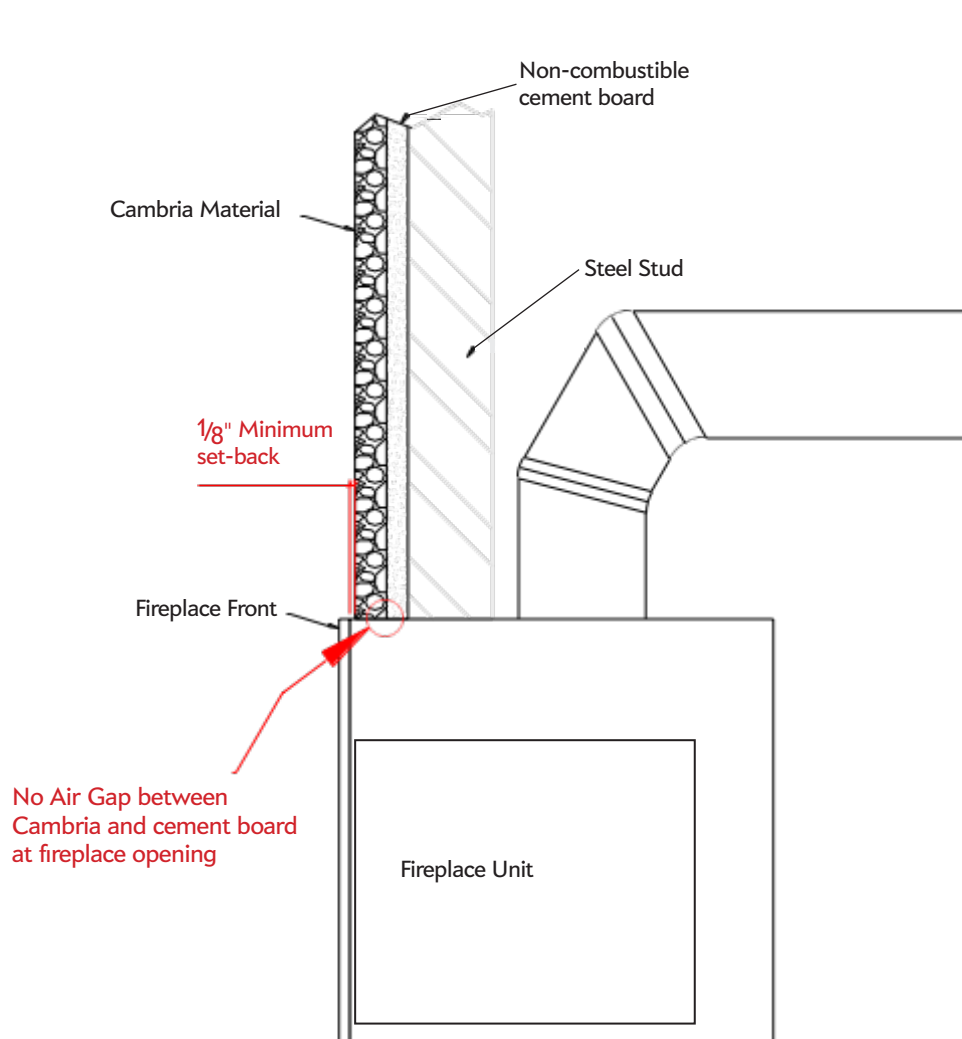

Figure 3
9. Fireplace framing must be designed and installed so the polished surface of the Cambria is recessed from the finished face of the fireplace opening a minimum of 1/8". See **Figure 3**.
10. The bottom backside of the Cambria surface product must always be permanently adhered to the non-combustible material so there is no air gap between the backside of the Cambria and front face of the non-combustible material. See **Figure 3**.